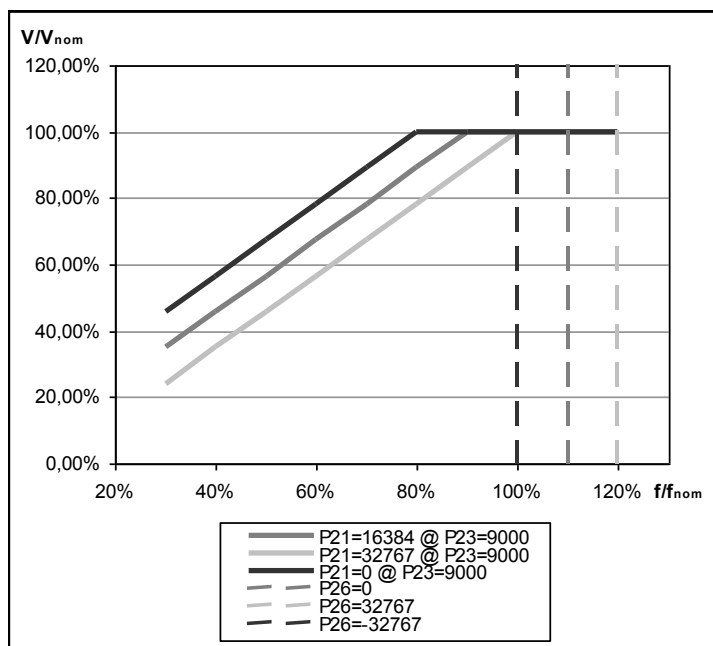

fig. 10a: Underspeed and Overspeed protection, P[21] and P[26]
For speeds lower than a programmable threshold, the machine voltage is no longer constant, but is regulated proportionately with the frequency at a ratio, which is also programmable, as shown in figure 10a e 10b. The intervention threshold depends upon:
**Parameter P[26]** sets the overspeed alarm intervention threshold; if it is set on 0, the signal cuts in at 55 Hz (if the 50/60 jumper and 50/60 setting in the **Settings/UFLO&LAMS** Menu are absent) or at 66Hz (if the 50/60 jumper is present and enabled or the 50/60 flag in the **Settings/UFLO&LAMS** Menu is activated). Values between 65535 (-1) and 32768 (-32767) lower the threshold proportionately to 50 Hz and 60 Hz, respectively; values between 0 and 32767 raise the threshold proportionately, respectively to 60 Hz and 72 Hz; refer to the broken lines in figure 10a.